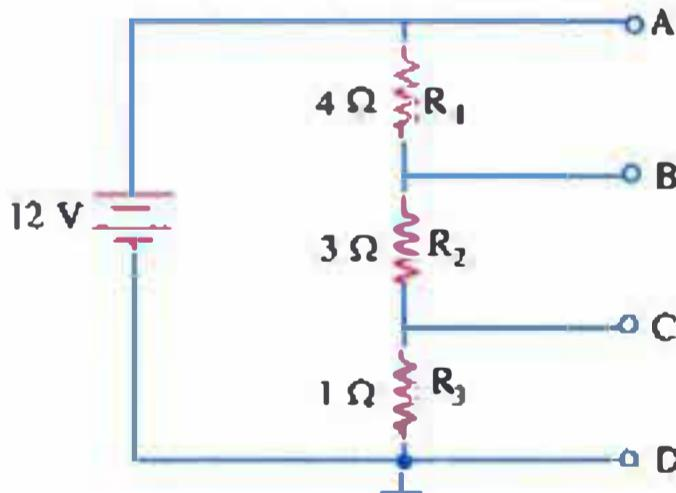

Fig. 2.14
**Example 2.5.** Find the values of different voltages that can be obtained from a 12 V battery with the help of voltage divider circuit of Fig. 2.14.